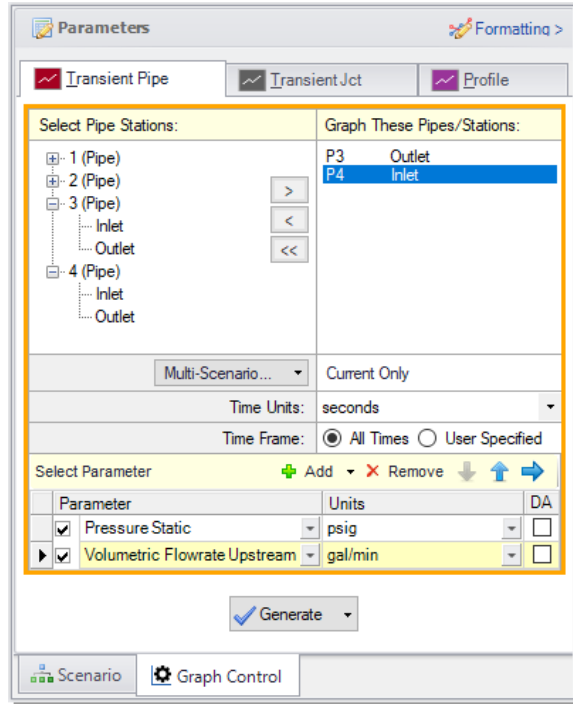

Figure 2.28 The Graph Control tab on the Quick Access Panel allows you to specify the graph parameters you want to graph in the Parameters/Formatting area
- **In order to add the stacked graph under the static pressure graph showing the volumetric flowrate at the inlet and outlet of the J4 Valve, click the “Add” button,** which has the green “+” icon next to “Select Parameter”. A new row under the Parameter definition area will appear (See Figure 2.28).
Figure 2.28 shows the input in the Parameters/ Formatting area on the Quick Access Panel.